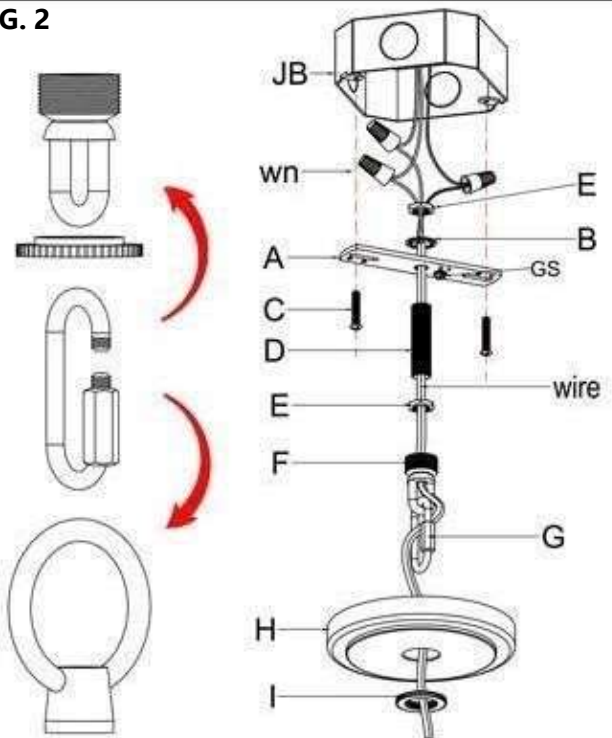

Fig. 3
CONNECTING THE WIRE (Fig. 3)
13. Connect the electrical wire as shown in Fig. 3, making sure that all the wire connectors are secured. If your junction box has a ground wire (green, or bare copper), connect fixtures ground wire to it. Otherwise connect fixture ground wire directly to crossbar (A) using green screw provided.
14. Tuck wire connections neatly into junction box (JB).
15. Raise canopy (H) over ceiling loop (F) and secure with collar ring (I).